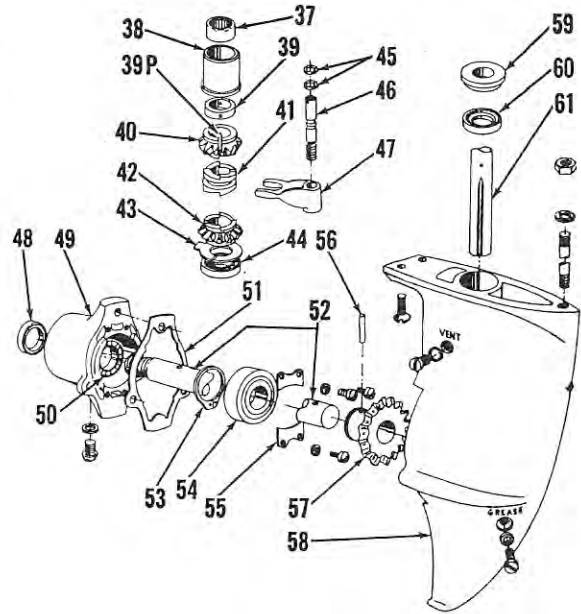

Fig. Mc38 — Exploded view of lower motor housing and associated parts.
To service the drive shaft, shift mechanism or forward or reverse gears, first remove the water pump and baler pump as outlined in previous COOLING SYSTEM section, drain the lower unit and clamp unit in a vise in upright position. Loosen the set screw in reverse lock actuator (28—Fig. Mc38) and, while counting the turns, unscrew and slip out the shift rod (17). After shift rod has been removed, lower unit gear housing (Fig. Mc37) can be unbolted, removed and disassembled.
of backlash in the propeller shaft. Move shift lever to reverse position and again check backlash. The amount of backlash should be **EXACTLY** the same in forward and reverse. If it is not, loosen the set screw in reverse lock actuator (28—Fig. Mc38), remove pin from top of shift rod (17) and screw shift rod in or out of shift fork. Turning shift rod clockwise (viewed from top) increases backlash in forward gear.